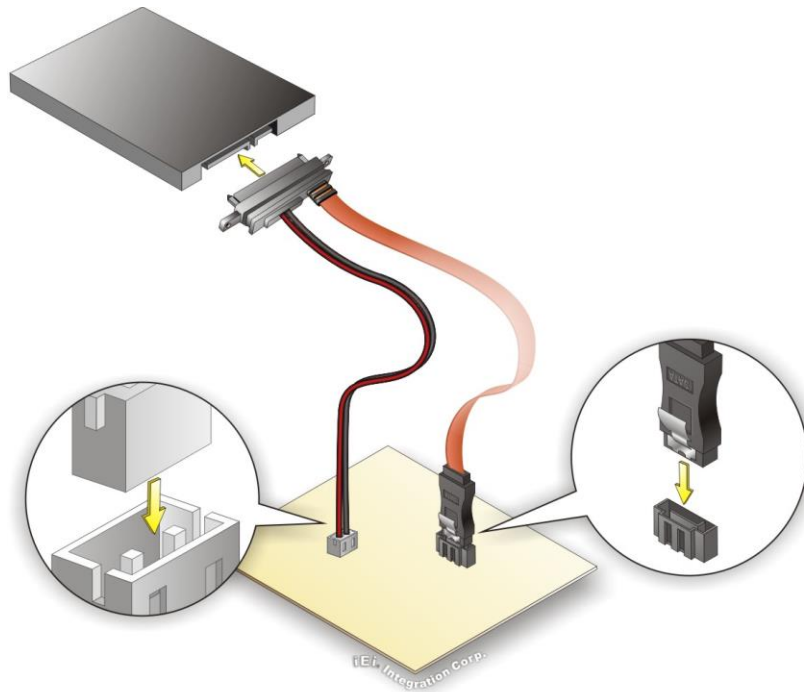

Figure 4-14: SATA Drive Cable Connection
- Step 2: Insert the cable connector.** Insert the cable connector into the on-board SATA drive connector and the SATA power connector. See **Figure 4-14**.